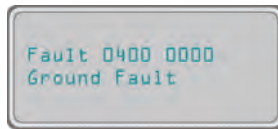

Figure 4-5 Ground Fault Message
- The GFI circuit operates by bonding the PV array negative or positive to earth ground through a 600 VDC 1-amp fuse. The GFI circuit activates if any DC ground fault currents are greater than 1 amp. The GFI circuit opens the 1-amp fuse, interrupting the fault’s current path, disabling the inverter’s power production and displaying a unique error message shown in Figure 4-5.